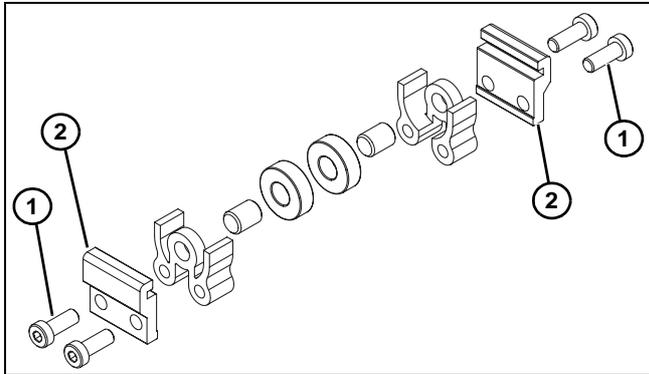
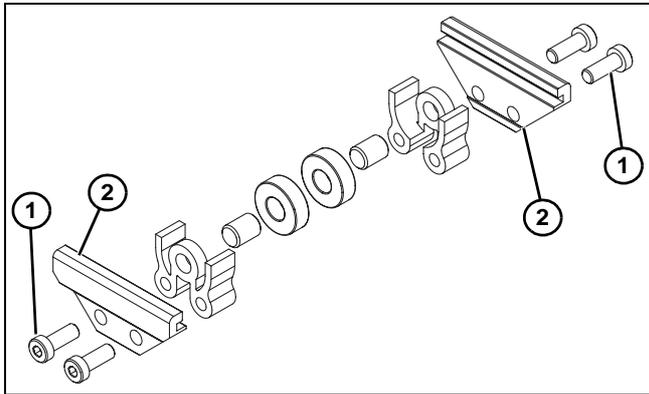

Figure 12
Figure 13
1. Locate return rollers. Exploded views shown in Figure 12 & Figure 13.
2. Remove screws (Figure 12, item 1) & (Figure 13, item 1) and clips (Figure 12, item 2) & (Figure 13, item 2) from roller assembly.